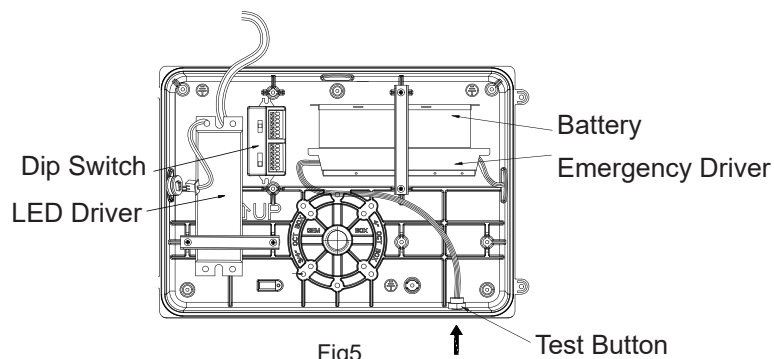

Fig5
4. Push the test button to see if it's working properly. (Fig 5)